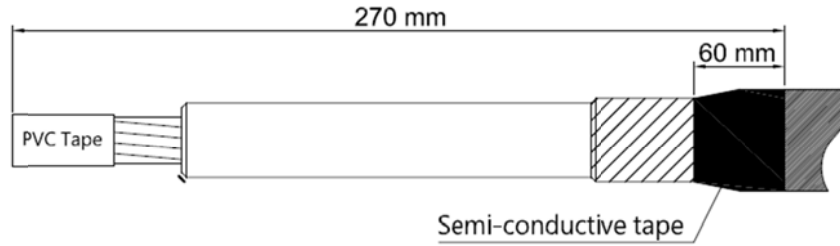

Fig. 7
Step 7. Wrap 2 layer semi-conductive tape 60mm from 270mm of the end of cable into outer jacket, Cu conductive shield and semi-conductive shield as Fig. 7.